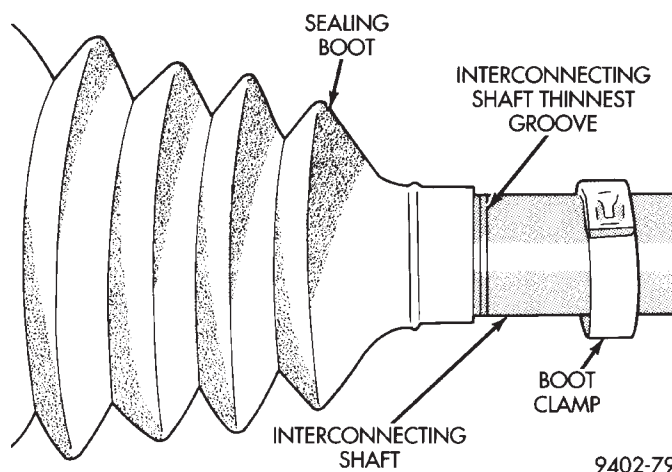

Fig. 36 Seal Boot Correctly Positioned On Interconnecting Shaft
(4) Install outer C/V joint seal boot retaining clamp, onto interconnecting shaft. Install replacement outer C/V joint sealing boot onto interconnecting shaft. **Outer C/V joint seal boot MUST be positioned on interconnecting shaft, so only the thinnest (sight) groove on interconnecting shaft is visible (Fig. 36).**